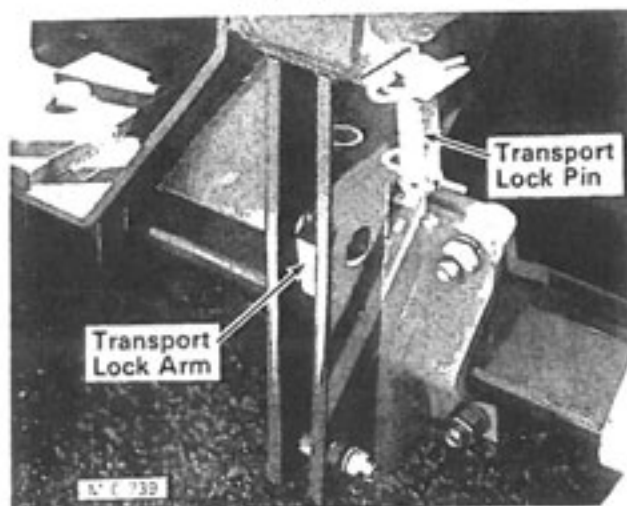

Figure 13
1. The transport lock, Figure 13, holds the body of the Shredder up so that it can be transported with the hydraulic or mechanical ram disconnected.